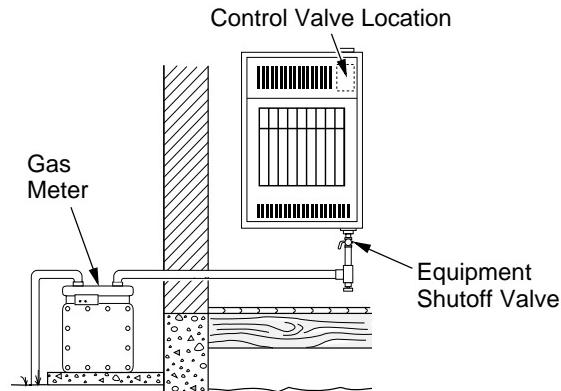
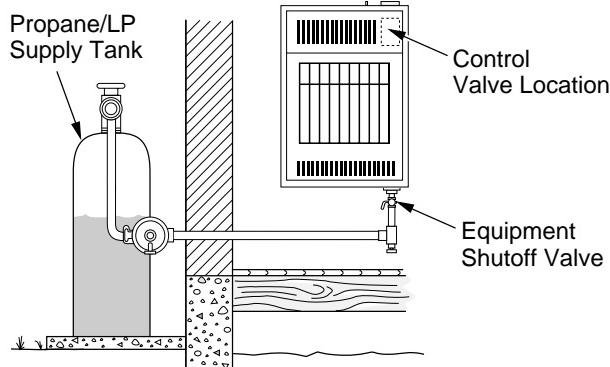

Figure 24 - Checking Gas Joints for Natural Gas [6,000 Btu/Hr Model (1.8 kW) Shown]
Figure 25 - Checking Gas Joints for Propane/LP Gas [6,000 Btu/Hr Model (1.8 kW) Shown]
3. Check all joints from gas meter for natural gas (see Figure 24) or propane/LP supply tank for propane/LP gas, to equipment shutoff valve (see Figure 25). Apply a noncorrosive leak detection fluid to all joints. Bubbles forming show a leak.
4. Check all joints from equipment shutoff valve to control valve (see Figures 24 and 25). Apply a noncorrosive leak detection fluid to all joints. Bubbles forming show a leak.